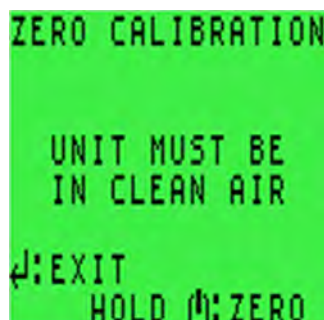

Figure 9-2: ZERO CALIBRATION Screen
2. Continue holding the button until the self test finishes and the LCD displays ***ZERO CALIBRATION***, as shown in Figure 9-2: ZERO CALIBRATION Screen.